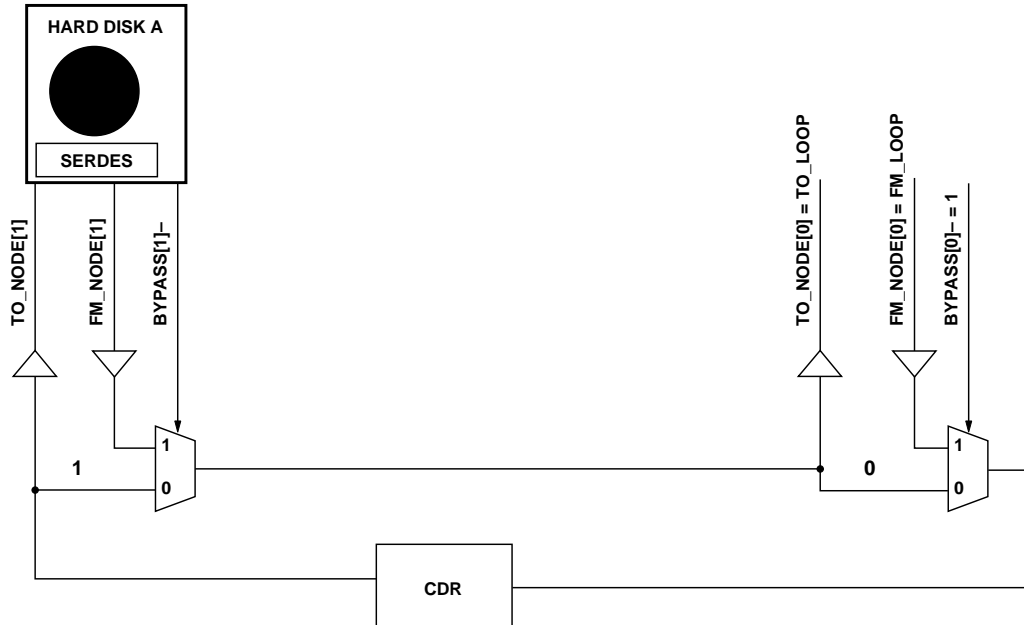
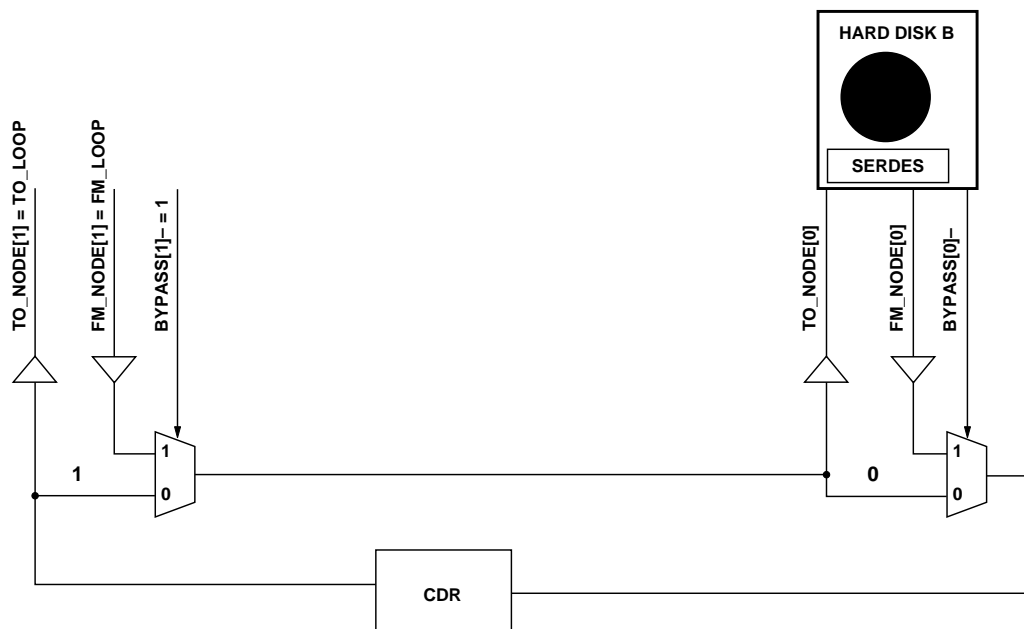

Figure 4: Connection Diagram. Case of CDR Before Entering the Hard Disk.
Figure 5: Connection Diagram. Case of CDR After Exiting the Hard Disk.
A Port Bypass Circuit is a 2:1 Multiplexer array with two modes of operation: DISK IN LOOP and DISK BYPASSED. In DISK IN LOOP mode, the loop goes into and out of the disk drive. Data go from the HDMP-0421's TO\_NODE[n] $\pm$  differential output pins to the Disk Drive Transceiver IC (for example, an HDMP-1536A) Rx $\pm$  differential input pins. Data from the Disk Drive Transceiver IC Tx $\pm$  differential output pins go to the HDMP-0421's FM\_NODE[n] $\pm$  differential input pins. Figures 4 and 5 show connection diagrams for disk drive array applications. In DISK BYPASSED mode, the disk drive is either absent or non-functional and the loop bypasses the hard disk. DISK IN LOOP mode is
(Figure 4). To achieve a CDR function after slot A, the BYPASS[1]- pin must be HIGH and hard disk slot A must be connected to PBC cell 0 (Figure 5). Table 2 shows both possible connections. In both cases, a Signal Detect (SD) pin
**Table 2. Pin Connection Diagram to Achieve Desired CDR Location (see Figures 4 and 5)**